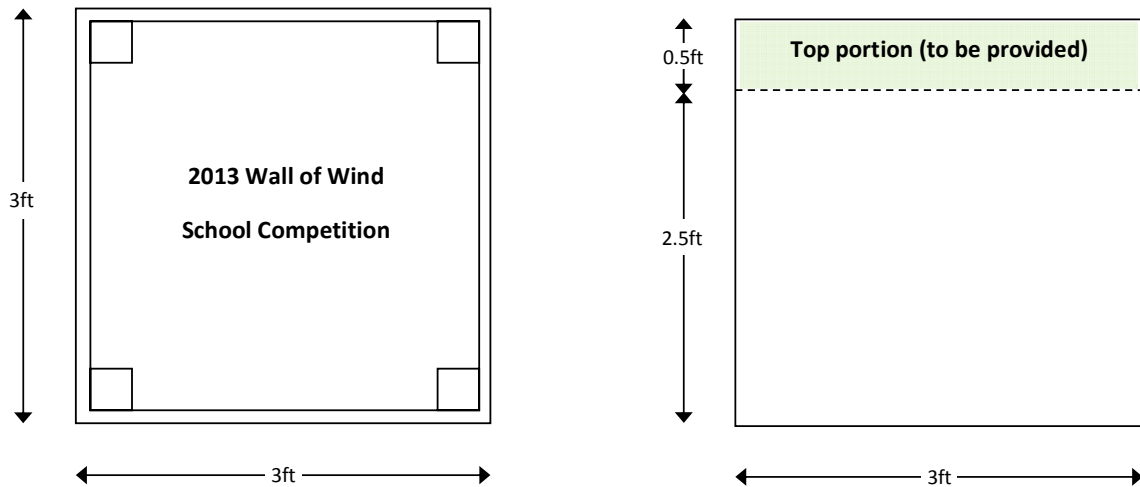

Figure 1. Plan and side views of the building model.
- Physical tests occurred on a uniform cube (3ft x 3ft x 3ft). These cubes represented a building with a flat roof. Teams will be provided with the top portion of the cube (3ft x 3ft x 0.5ft), which represented the flat roof, on which they attached their mitigation solution (see Figure 1).